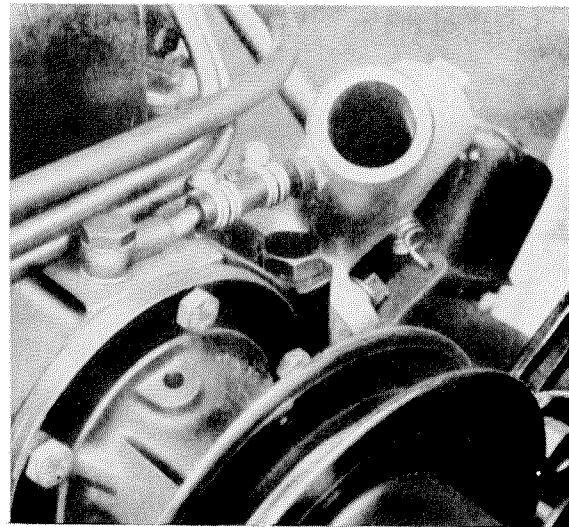

Figure 01-3/6
27. Force compressed air through the oil line (7) and screw it with the oil line (5) to the cylinder head (see Figure 01-3/2).
28. Mount the cooling water outlet pipe. Before installation check if flange is level and if hole for compensating line is not clogged (see Figure 01-3/6).
A distorted flange must be reconditioned. Clogged water holes must be cleaned out, if not, the engine will tend to throw out water due to vapor bubble formation. The connecting hose between the cooling water outlet pipe and the connector at the cylinder head must be in perfect condition (see Figure 01-3/6). The hose joint clip shown in Figure 01-3/6 is the old version consisting of wire which should no longer be used. The specified hose joint clip has the designation S 9/9 Zy N 288a.
31. Install the injection lines (3 and 4) and the vacuum line (2). Connect the drip-oil line (see Figure 01-3/2).